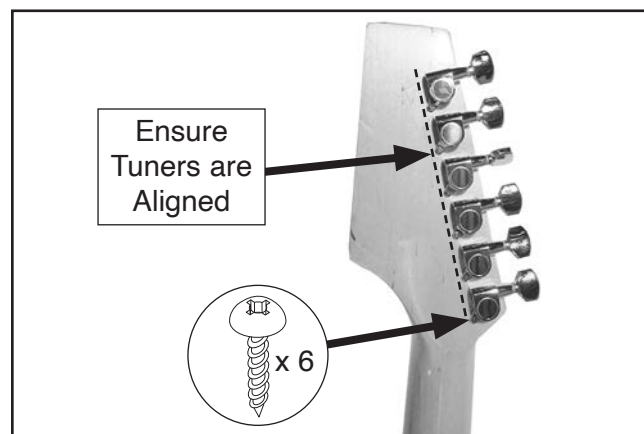

Figure 18. Tuning machines installed and aligned on headstock.
3. Secure tuning machines to headstock with (6) M2.2 x 10 tap screws, as shown in **Figure 18**.